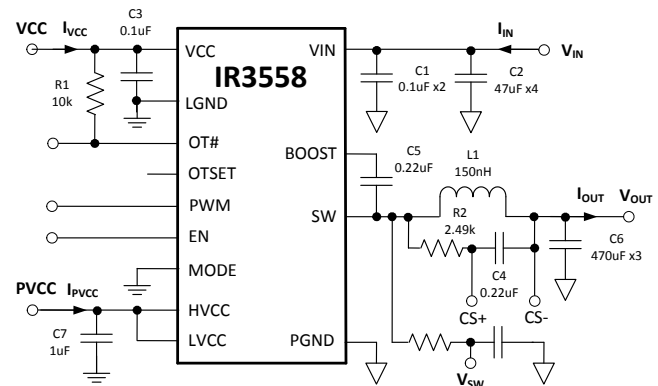

Figure 32: IR3558 Power Loss Measurement
Circuit of Figure 32,  $V_{IN}=12V$ ,  $V_{OUT}=1.2V$ ,  $f_{SW}=400kHz$ ,  $L=150nH$  ( $0.29m\Omega$ ),  $V_{CC}=5V$ ,  $HVCC=LVCC=7V$ ,  $T_{AMB}=25^{\circ}C$ , no heat sink, no air flow, 8-layer PCB board of 3.7" (L) x 2.6" (W), no PWM controller loss, no inductor loss, unless specified otherwise.
The single-phase IR3558 efficiency and power loss measurement circuit is shown in Figure 32.